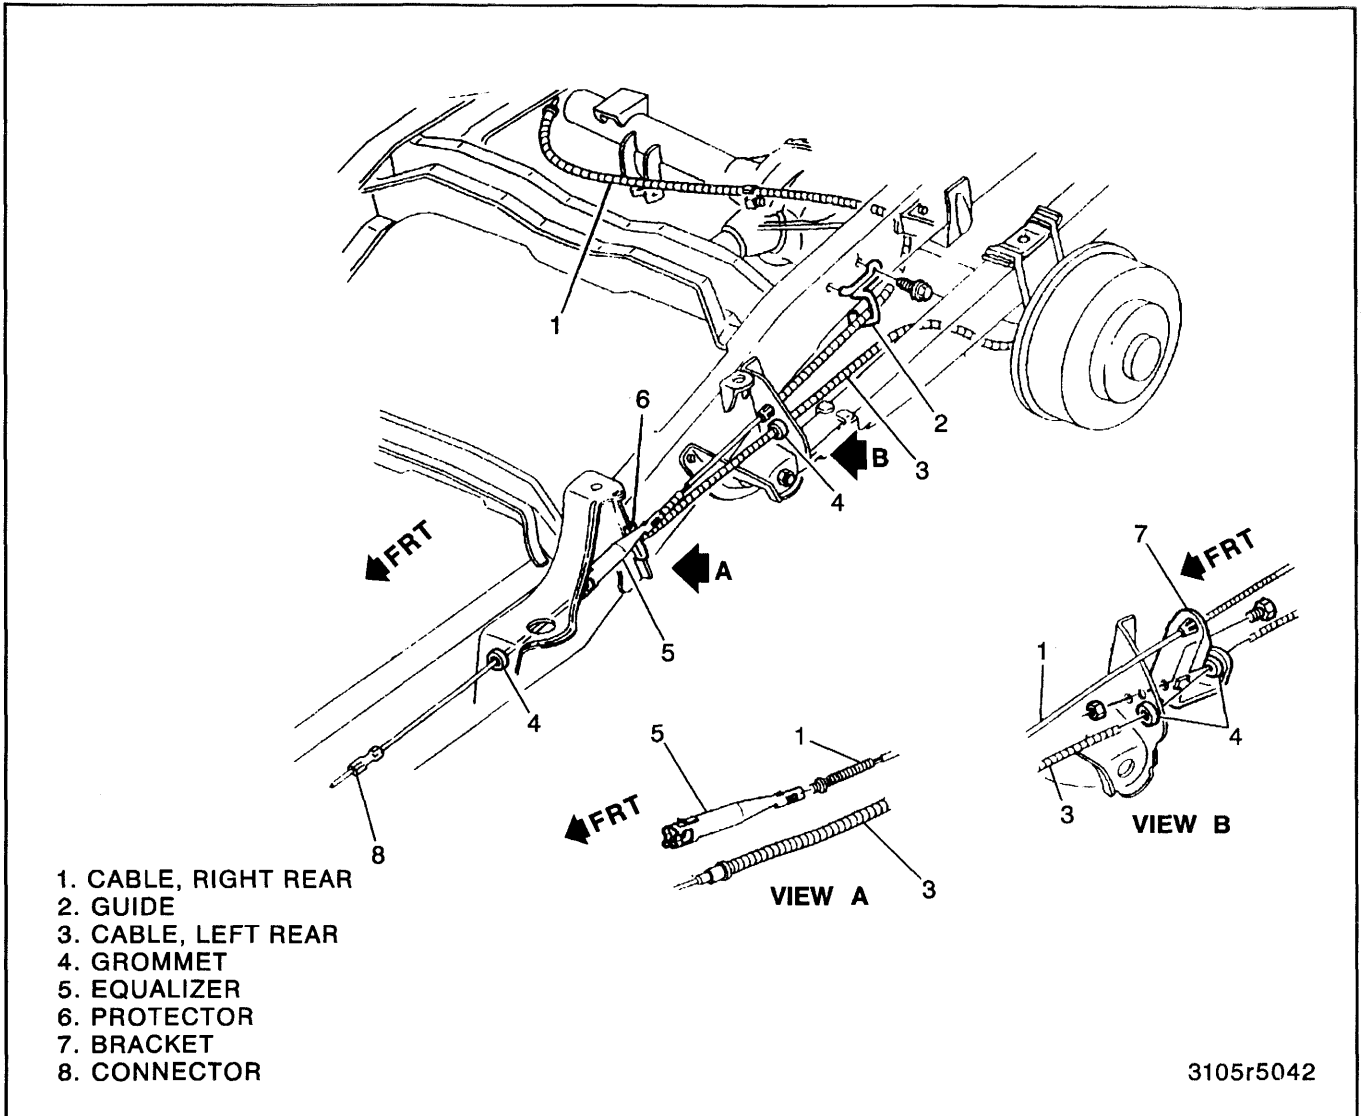

Figure 3—Rear Parking Brake Cable
2. Loosen adjusting nut (13) at equalizer (12) (figure 3).
3. Connector (8).
4. Cable (5) from parking brake lever (1).
- Bend in the retaining fingers (6) at the frame bracket.
5. Front cable (5).
Remove or Disconnect (Figure 3)
Install or Connect (Figure 3)
Adjust (Figure 3)